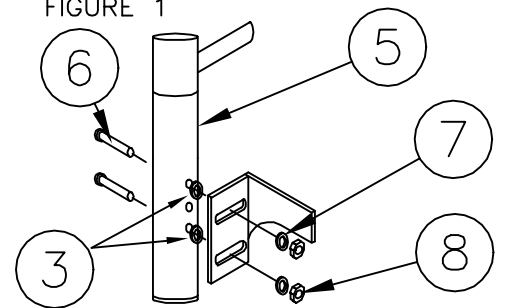

FIGURE 2
Making sure that the frame holes in the leg extension on the headboard will be facing the mattress, align frame holes over the holes in the leg extension (5). Secure with long screws (6), washers (3), washer (7), and nuts (8) which are supplied in hardware kit. (Figure 2)